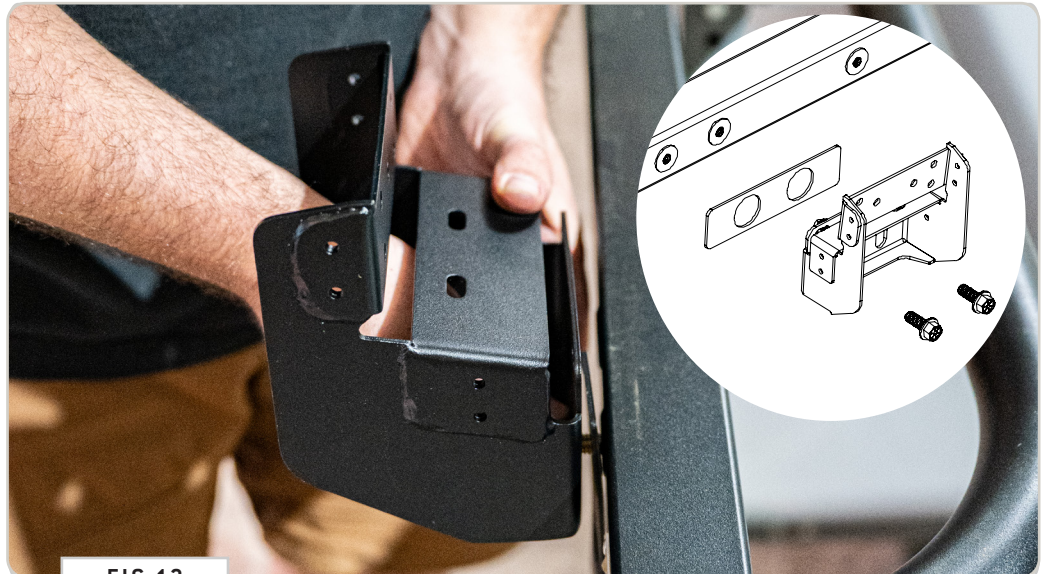

FIG 12
2.5 Attach Hangar Brackets to Steps: Attach **Hangar Brackets** to the locations shown using the supplied **3/8-16 x 1 Flanged Hex Head Screws** with Loctite (FIG 12).